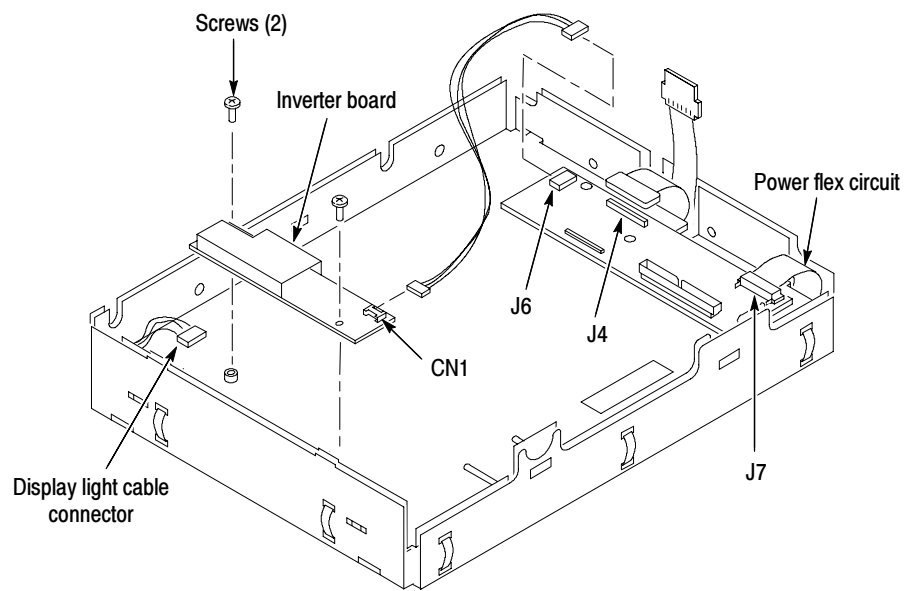

Figure 7: Install the inverter circuit board
8. Connect (CN1) to (J6) connectors to the Inverter/Display Adapter circuit boards. See Figure 7.
9. Connect LCD light connector (S) to the Inverter circuit board.